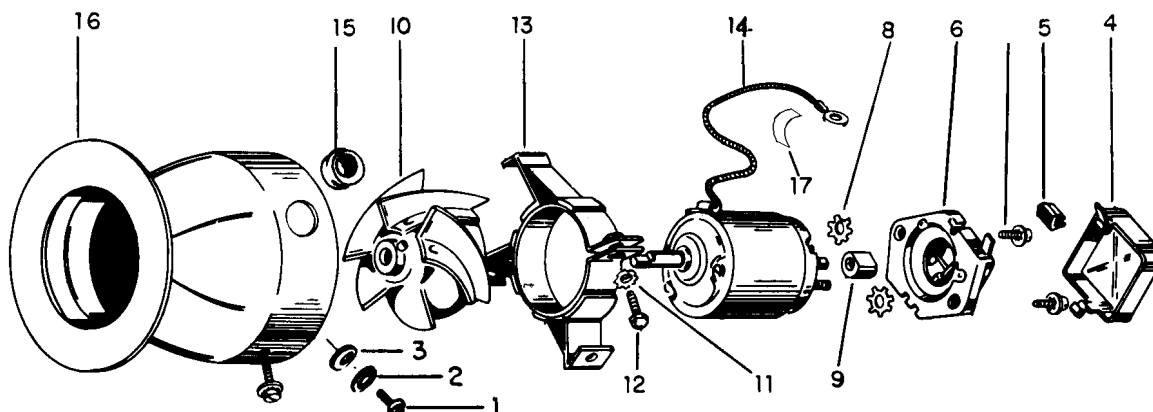
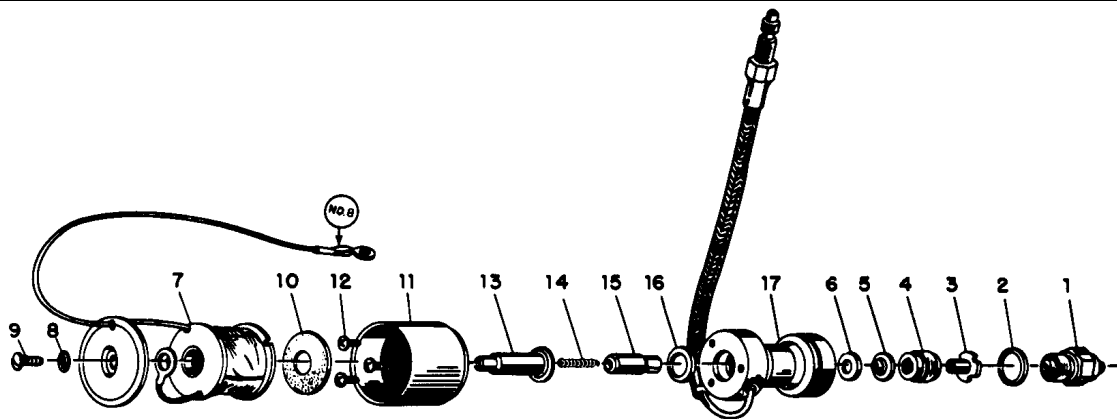

Figure 8 - Ventilating Air Blower, 8259 Series Heaters
Figure 11 - Fuel Nozzle and Solenoid Valve Assembly
MODEL 8259-A, 8259-C & 8259-DL (See Figure 8)
## FUEL NOZZLE AND SOLENOID DISASSEMBLY (See Figure 11)
16. Fuel Nozzle and Solenoid Assembly (See Figure 11). Inspect the solenoid and cover assembly (7) for condition of insulation and electric continuity. Inspect nozzle holder and fuel line (17) for clogging
1. Fuel Nozzle and Solenoid Assembly (See Figure 11). Reassemble in reverse order of index numbers in Figure 8, using a new nozzle (1), gaskets (2, 6, 16) and spacer plug (3). Make sure cover screw (9) passes through eyelet of the coil ground lead, when the cover is reinstalled.
5. Ventilating Air Blower Reassembly - 8259 Series (See Figure 8). Replace the motor mounting bracket (13) on the motor (14) in its original position (as previously marked) and tighten the screw (12) securely. Make sure the motor is straight in the bracket and is securely clamped in position. On
(Figure 11)